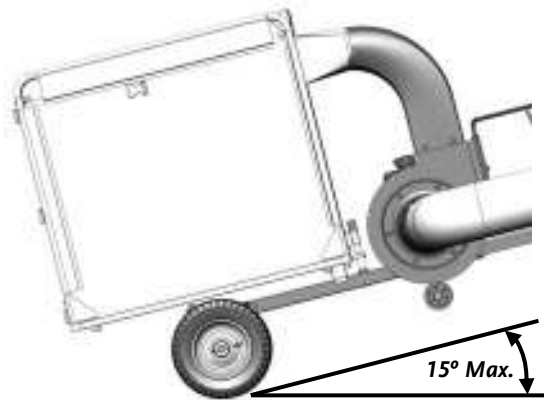

Figure 68
- Do not use the DR Leaf and Lawn Vacuum on slopes greater than 15 degrees (**Figure 68**). Doing so could result in serious injury to yourself or damage to your machine.